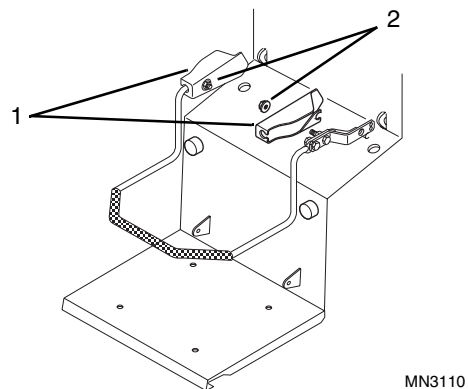

Figure 9-90 Restraint Bar Spring Cover Installation
37. Install the left (Fig. 9-90, 1) and right restraint bar covers, and secure with a hex flange nut (2) on each side.